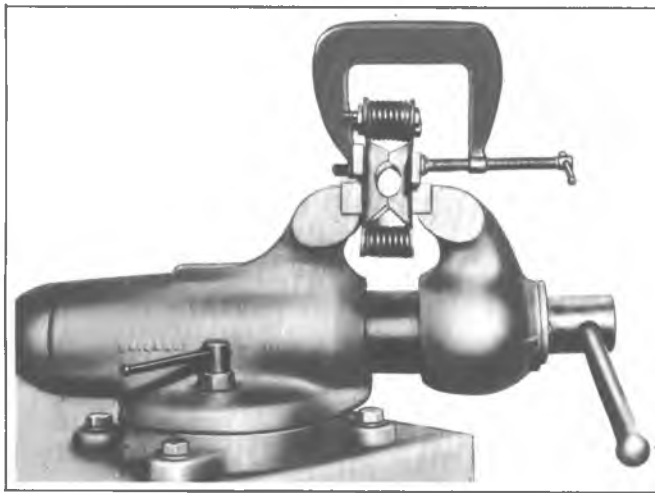

Fig. 6D--Removing Preload Springs from Pack
5. Position spring pack in vise and remove 1/4 inch bolts. Alternately relieve "C" clamp pressure and vise pressure until spring compression is relieved. See figure 6D.